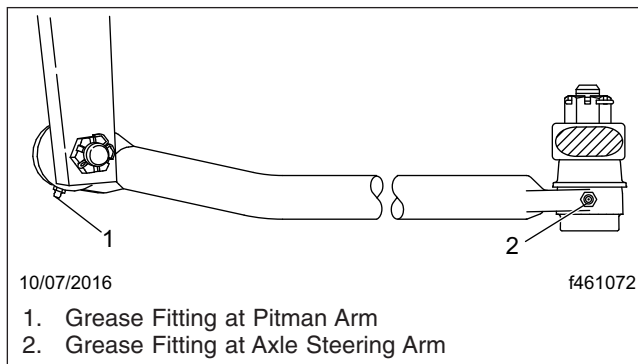

Fig. 3, Drag Link
2. Using a clean rag, wipe all dirt from the drag link grease fittings. See **Fig. 3**.